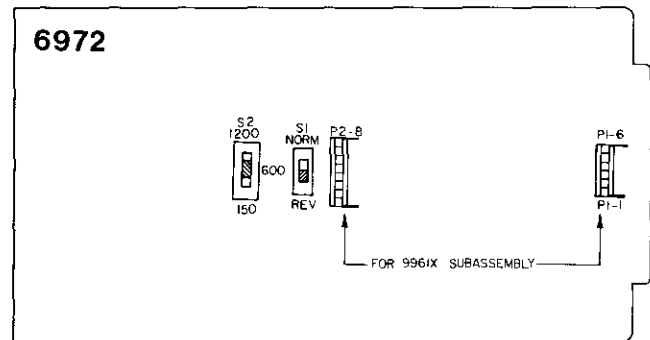

figure 4. Option switch locations
3.05 Two option switches must be set before the 6972 is placed into service. The location of each switch on the 6972's printed circuit board is shown in figure 4. These switches and their functions are described in paragraphs 3.06 and 3.07.